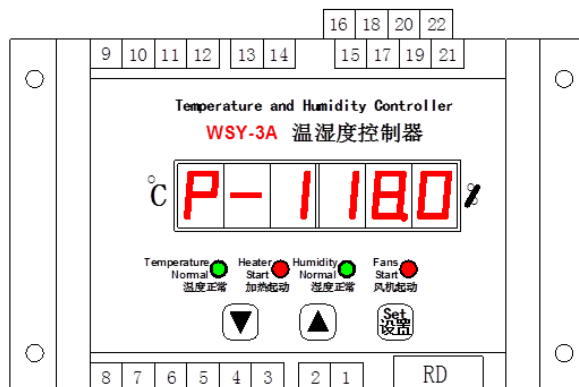

Figure 1
- Press the setting button to enter the parameter setting state. The left three digit digital display flashes P-1, indicating the lower temperature limit setting value. The right three digit digital display is the numerical value, which can be set through " \wedge " and " \vee " (see Figure 1), Set the range from 0 to 99.